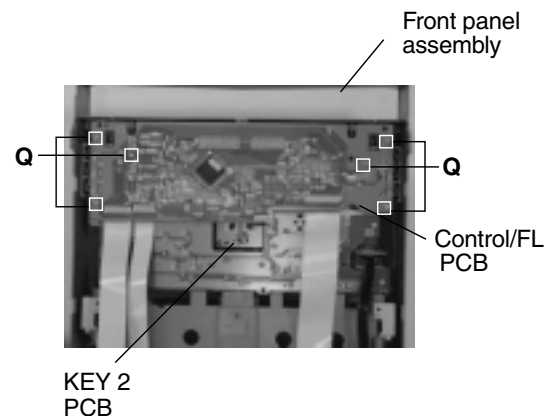

Fig.21
■ Removing the control/FL PCB (See Fig.21)
5. Remove two screws **S** retaining the sound mode and CD function (key 2) switch PCB.(Fig.21)